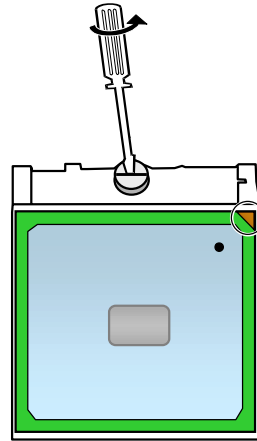

Figure 2-6 Remove the CPU
4. To remove the existing CPU, Loosen the screw by a flat screwdriver,upraise the CPU socket to unlock the CPU. (Figure 2-6)